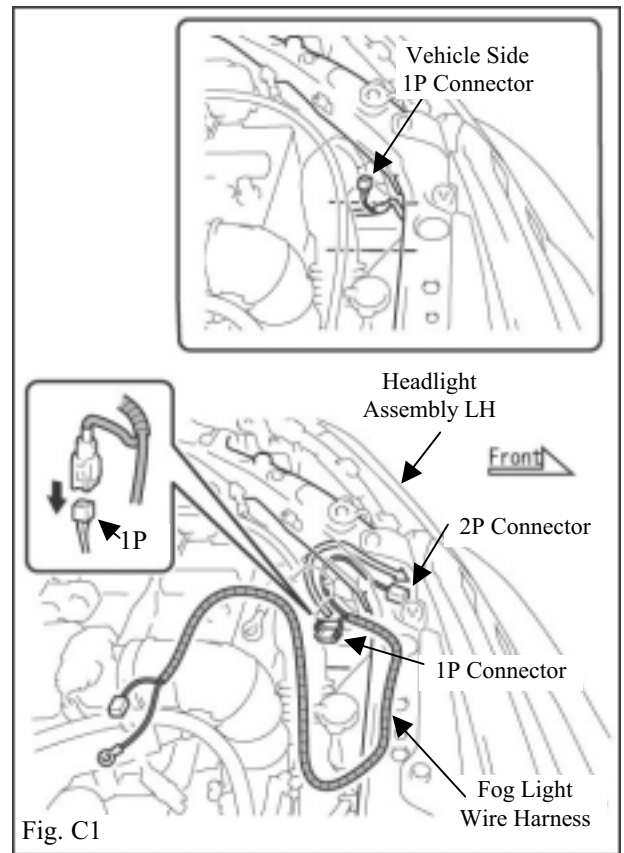

Fig. C1
➔ 2. Route the fog light wire harness through to the underside of the LH headlight assembly at the positions shown. (Fig. C1)
3. Connect the 1P connector (fog light wire harness) to vehicle side 1P connector as shown. (Fig. C1)